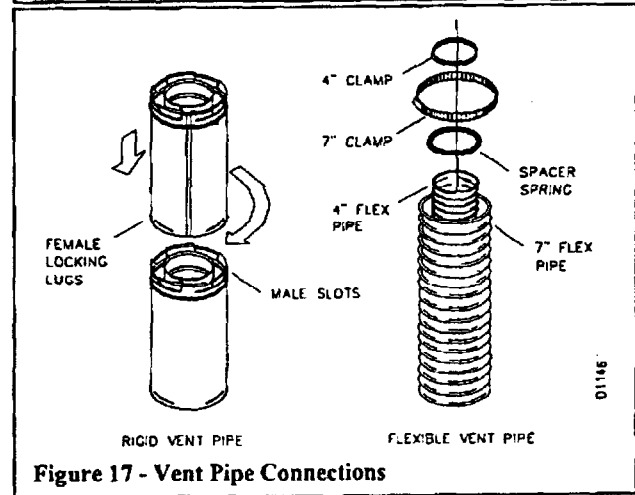

Figure 17 - Vent Pipe Connections
**Twist-lock Procedure:** The female ends of the pipes and fittings have four locking lugs (indentations). These lugs will slide straight into matching slots on the male ends of the adjacent pipes and fittings. (All connections must be sealed with high temperature silicone sealant as specified in the second warning statement on page 7.) Push the pipe sections together and twist one section clockwise approximately one-quarter turn until the sections are fully locked. (See figure 17). NOTE: Horizontal runs of vent must be supported every three feet. Use wall strap for this purpose.
2. Assemble the desired lengths of pipe and elbows necessary to reach from the fireplace flue up through the firestop. All connections must be sealed with high temperature silicone sealant as specified in the second warning statement on page 7. Be sure all pipe and elbow connections are fully twist-locked (see Figure 17, on page 8).